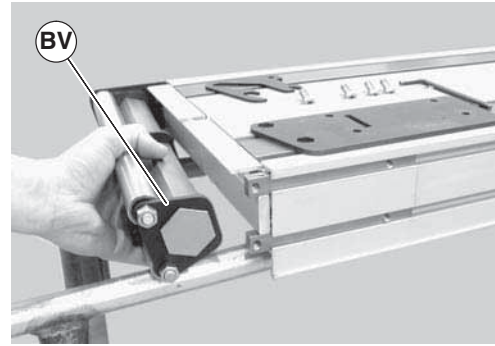

Figure 57
4. Slide the transfer tail pulley assembly (Figure 57, item BV) out of the headplate on the opposite side.